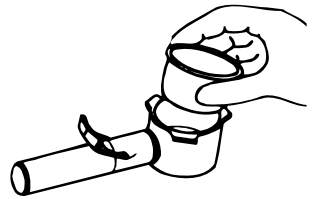

FIGURE 1
1. Place the filter basket in the filter holder. *(See Figure 1)*